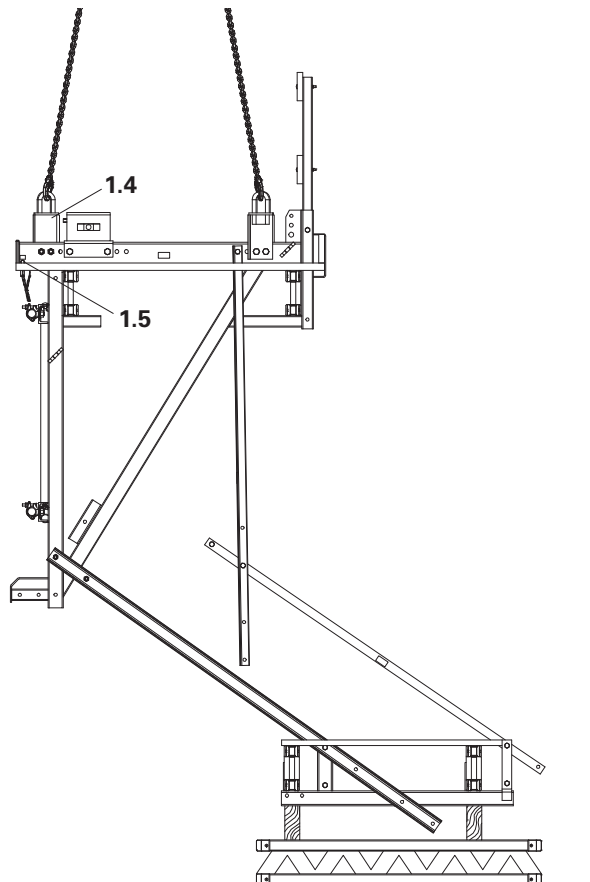

Fig. B1.36
4. Lift working platform out of anchoring and disassemble finishing platform. (Fig. B1.36)